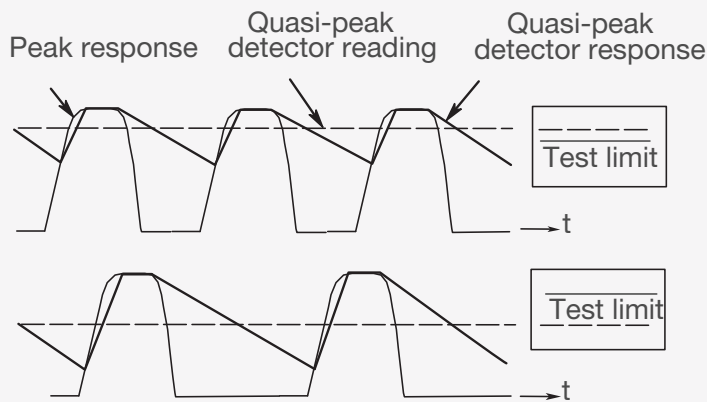

Figure D-2. Quasi-peak detector response diagram.
Most radiated and conducted limits are based on quasi-peak detection mode. Quasi-peak detectors weigh signals according to their repetition rate, which is a way of measuring their annoyance factor. As the repetition rate increases, the quasi-peak detector does not have time to discharge as much, resulting in a higher voltage output (See Figure D-2). For continuous wave (CW) signals, the peak and the quasi-peak are the same.